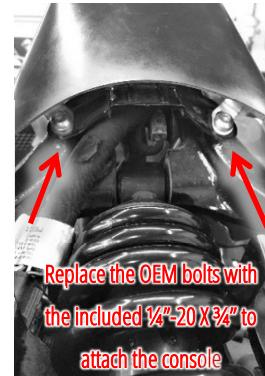

Fig.1
9. Put the console between the gas tank and the seat as shown on the picture below and adjust its position. Use the included 1/4"-20 X 3/4" hex bolts and washers to replace the OEM ones. You may also need to adjust the shape of the console according to the shape of your tank and seat (Fig. 1).